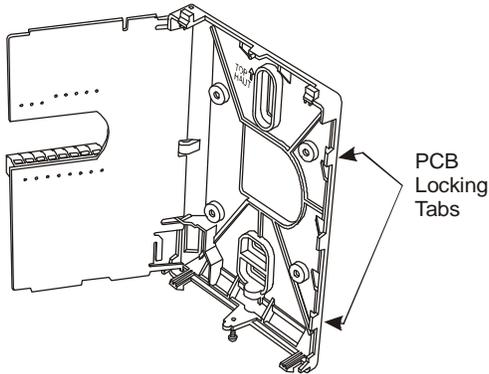

Figure 2: Opening the PCB
- Carefully pull the locking tabs on the right side of the controller mounting base and unlock the PCB. Open the PCB to the left as illustrated in Figure 2.